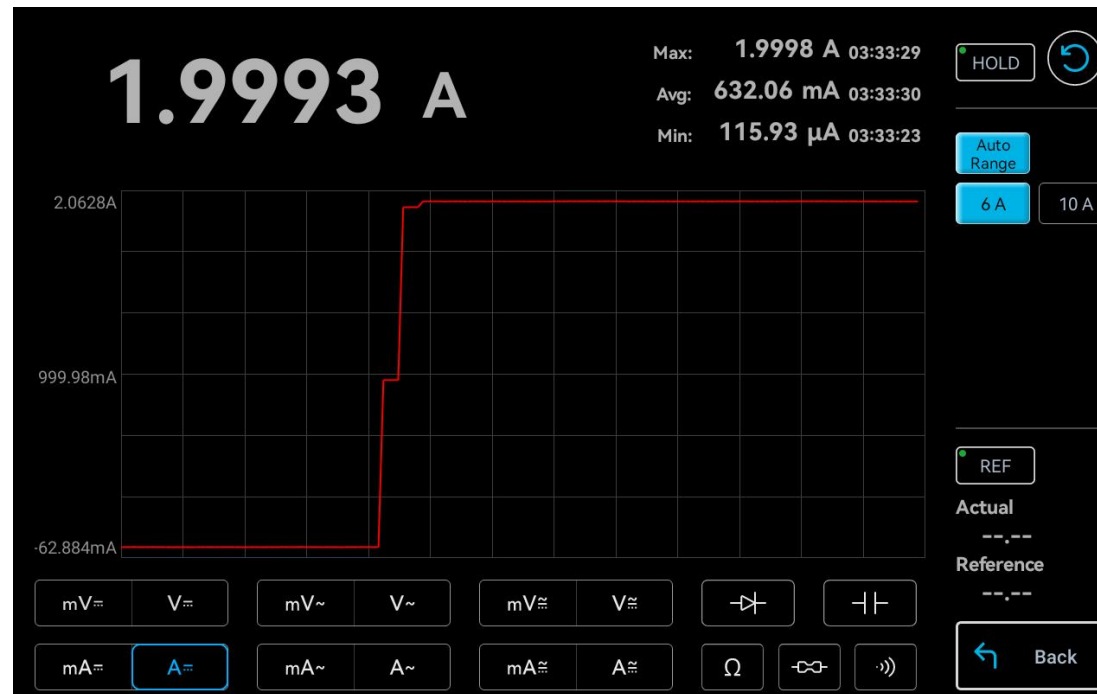

Figure 9-9 DC Current Measurement (A)
Test Steps: Select and enable the DC current measurement (A) in the measurement item selection area , as shown in Figure 9-9.